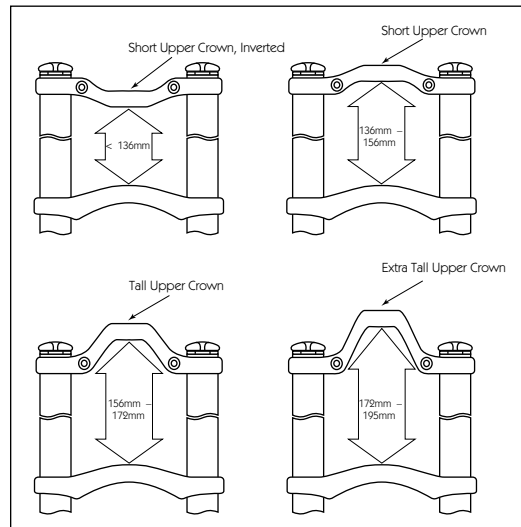

Fig. 1
2. Before you install a Judy XL on the bicycle, verify that the fork has been supplied with the correct upper crown. Refer to Fig. 1 for upper crowns available for Judy XL and to maximize fork stiffness by proper selection and orientation of the upper crown.